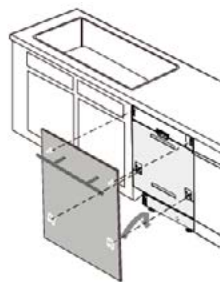

Figure 19
- Put the hook into the slot of the outer door (see Figure 19).